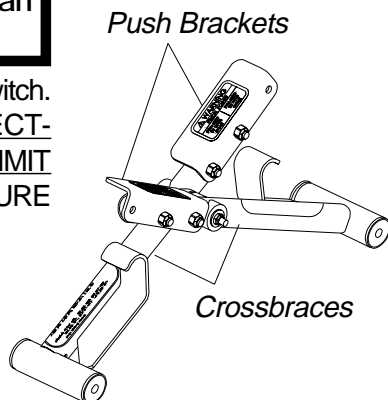

FIGURE 2 - TRANSPORTING RANGER II FWD - CAPTAIN'S SEATS
Unfolding/Folding - Captain's Seat (FIGURE 2)
2. Assemble the wheelchair. Refer to FIGURE 2.
4. Remove the batteries and footrests/legrests/footboard plate from the wheelchair. Refer to FIGURE 2.